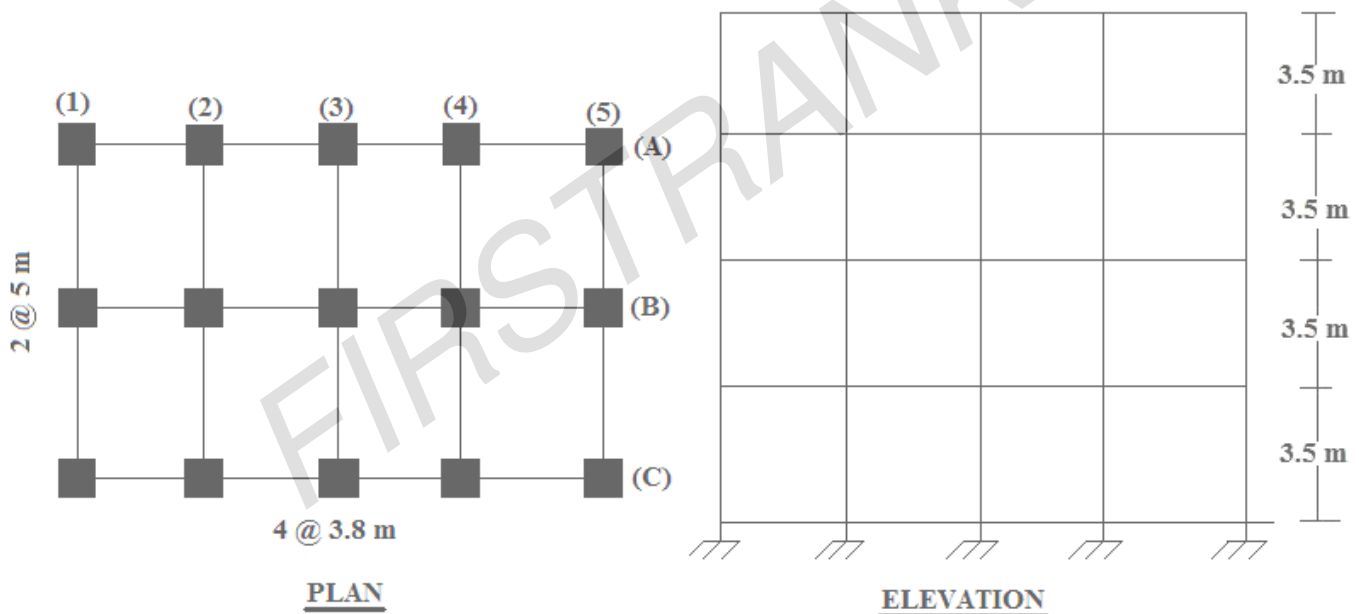

Figure 10:
6. Consider a four-storey RC building shown in figure 10. The building is located in Hyderabad. The soil condition is said to be hard soil and the whole structure is supported on raft foundation. The RC frames are OMRF designed using IS 456. The lumped weight due to dead load is 12.5 kN/m² on floor and 9 kN/m² on roof. The floors are catered for a live load of 4.7 kN/m² and 2 kN/m² on roof. Determine the design seismic load on the structure expressed as nodal loads at joints as per IS 1893:2002 for a typical middle frame along 10 m direction for frame 3. [16]